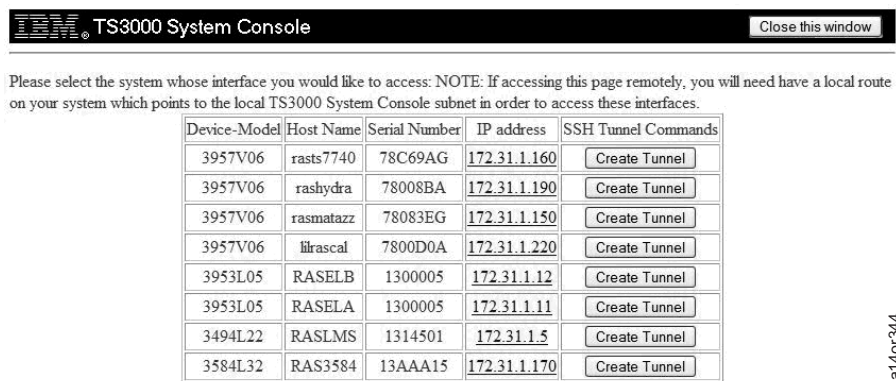

Figure 3-94. System Selection Screen
3. Click on **System Interfaces**. You see Figure 3-94.